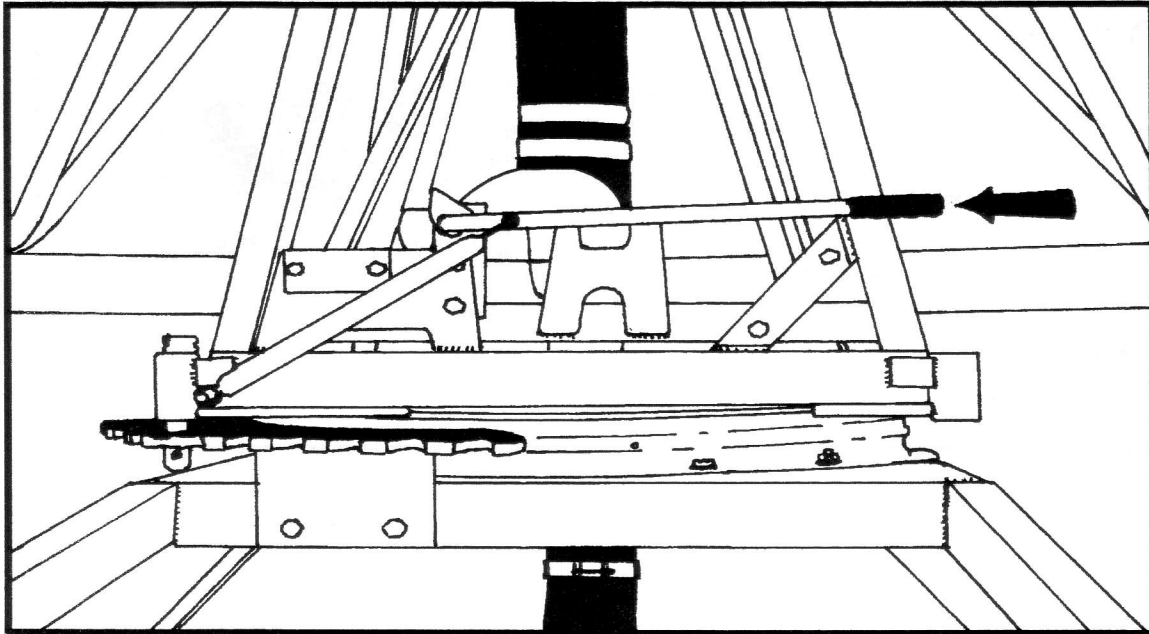

Fig 9
Ensure Boom pivot is locked where applicable. (fig 9)
- 9: On pivoting Boom – release centre Boom pivot lock (page 10 fig 9). **This is only used on flat fields where the wheeling is not even.** Lead ballast (supplied wrapped on the chassis water feed pipe) may be required to balance the Boom and this is wrapped around the water pipe on the end of the second section. Note: if the field is on a gradual slope at 90° to the direction of the run then the Boom should stay locked in order to remain parallel to the slope.
- 1: If the pivot is unlocked, lock the pivot on central tower (page 10 fig 9). If the lock does not locate, either pull down on the high side of the boom until it locks or leave extra clearance under the dropleg in section 2.